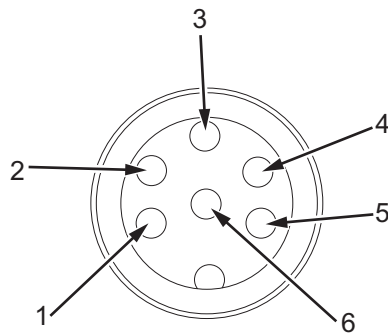

Figure 3-9: Status Output Connector Pin Diagram
The printer provides an output for a set of status lights through the status output connector (item 3, Figure 3-8 on page 3-8). This is a 6-way DIN connector. The pin allocation is shown in Table 3-2 and Figure 3-9.